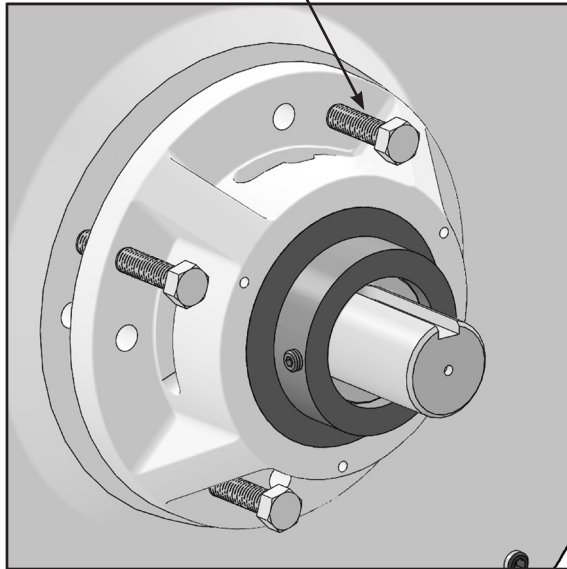

FIGURE 23
10. Alternately tighten opposing jack bolts 1/4 turn at a time until cartridge can be pulled from endplate (Figure 23). Properly dispose of bearing cartridge.